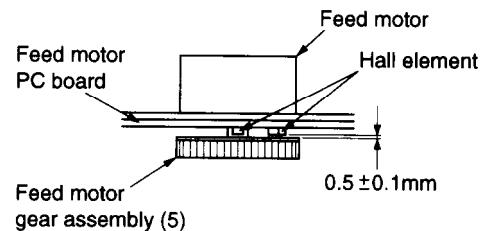

**Fig. 1-3-13**
- Remove two screws (6), and remove the rack gear assembly (7). (Refer to Fig. 1-3-13.)
- Push the pickup head (8) to the disc motor side (direction of the arrow (A)), and push and slide the upper gear of the rack gear assembly (6) (direction of the arrow (B)).
- Align the positioning holes of the upper and lower gears of the gear B assembly (2), insert them into the gears of the gear A (4) and the rack gear assembly (7), and fix them with the washer (1).